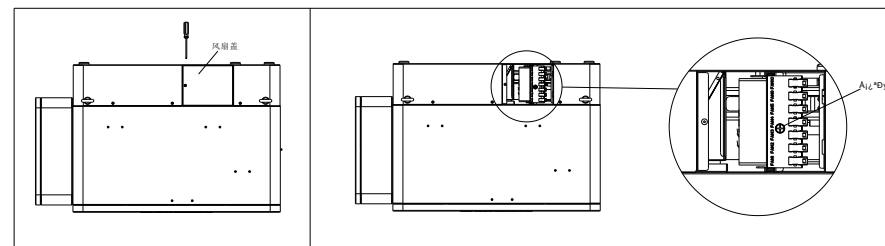

Fig 9.1 Position of the fan fixing plate
- 2> Remove the fan fixing plate using a cross-head screwdriver, as shown in Fig 9.1: